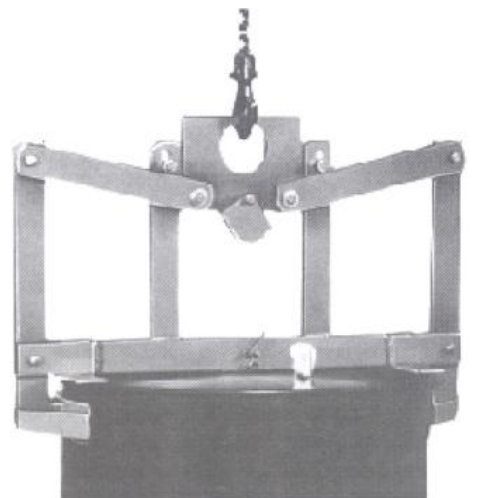

Figure 3
- (4) Keep hands clear and raise hoist. Unit will automatically engage drum and lift it. (Figure 3)
- (5) Move carefully to desired location. Lower again until lifting plate touches base assembly and raise hoist. Unit will automatically open and lift free of drum.